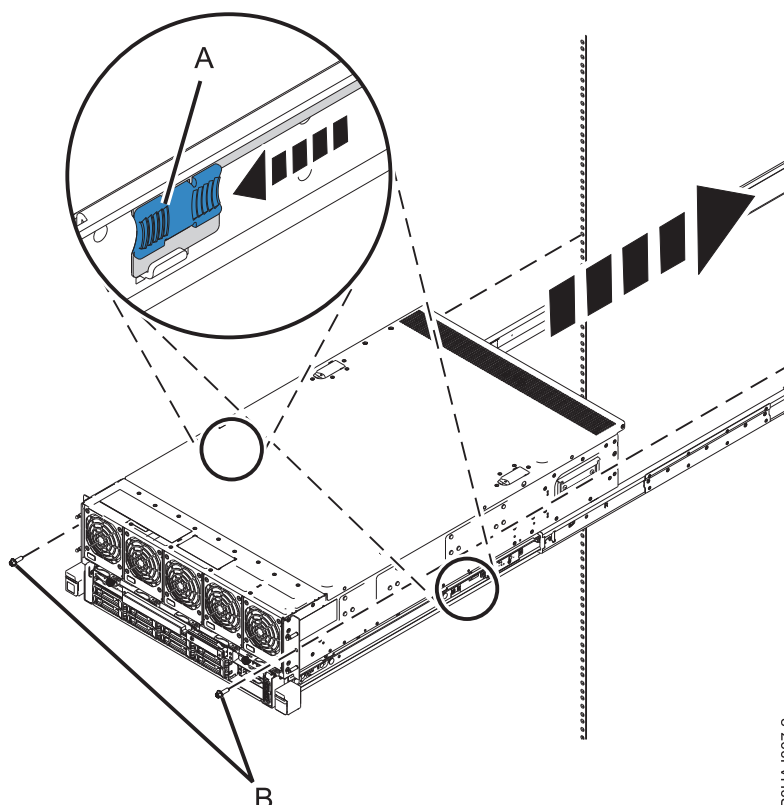

Figure 13. Releasing the latches in the middle of the rails and pushing the system all the way into the rack
7. Release the latches in the middle of the rails and push the system all the way into the rack, as shown in Figure 13 on page 13.